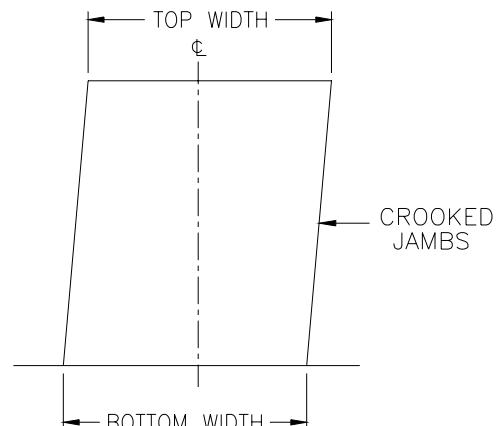

FIG. 3
- If the door jambs are crooked, install door on the center line (Figure 3).